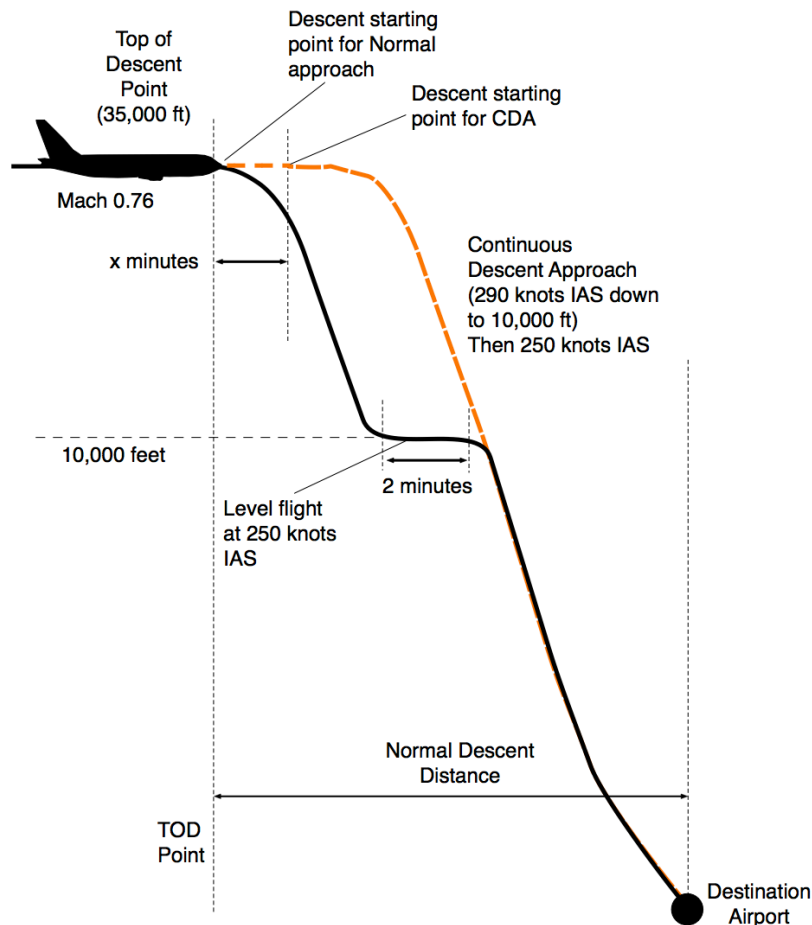
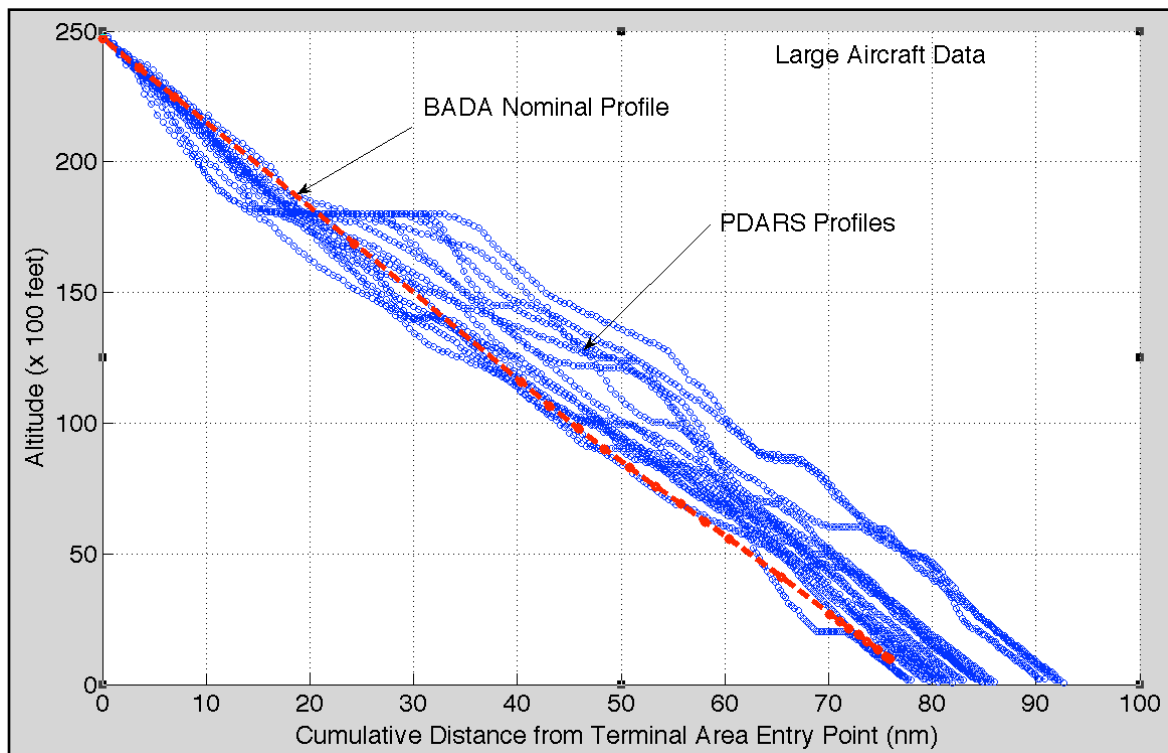

Figure 1. CDA Approach Compared to Typical Approach to LAX Airport.
Figure 2. Nominal and Observed Descent Profiles at LAX Airport. Twin Engine Aircraft.
One of the fuel savings initiatives under NextGen is to conduct Continuous Descent Approaches (CDA) to busy airports. A sample CDA approach is shown in Figure 1. The CDA approach starts x minutes later (called CDA distance offset) than the normal approach for our analysis. The aircraft initially is straight and level at 35,000 feet and flying at Mach 0.76. A typical approach to a busy airport like LAX involves one or more step down segments as shown in Figure 1. Figure 2 shows actual flight paths extracted from radar data provided by the FAA for a terminal design study. The data applies to large twin-engine transport aircraft. Note that according to Figure 2, below 10,000 feet both profiles will follow the same trajectory.
- b) Using the Boeing 737-800 class transport aircraft in our course material, estimate the fuel savings for a single flight to LAX using the CDA technique. Assume the mass at the TOD point is 58,000 kg. The speed parameters of the approach are provided in Figure 1. Assume the idle thrust is constant at 1/12 of the maximum generated at altitude. In your calculations consider the normal approach having a 2 minute step at 10,000 feet. During the step segment, the aircraft flies straight and level and thus the aircraft engines generate thrust to overcome drag.